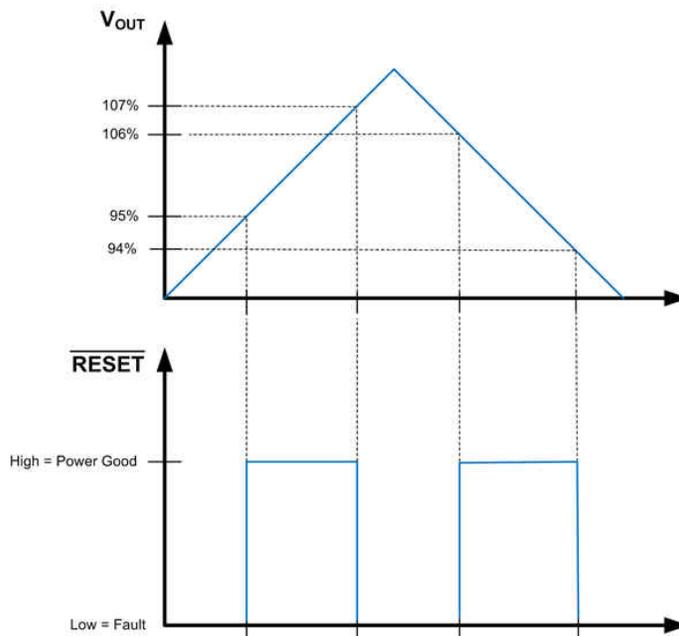
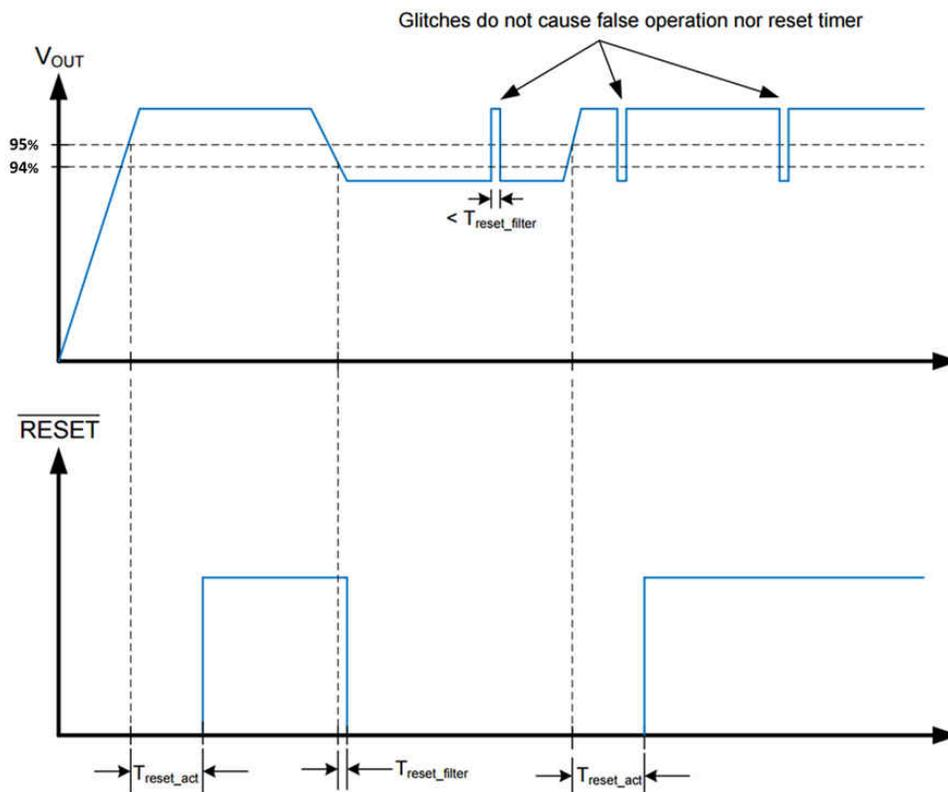

图 8-2. Static RESET Operation
图 8-3. RESET Timing Behavior
The $\overline{\text{RESET}}$ function, built into the LM53625/35-Q1, has special features not found in the ordinary Power-Good function. A glitch filter prevents false flag operation for short excursions in the output voltage, such as during line and load transients. Furthermore, there is a delay between the point at which the output voltage is within specified limits and the flag asserts Power Good. Because the $\overline{\text{RESET}}$ comparator and the regulation loop share the same reference, the thresholds track with the output voltage. This allows the LM53625/35-Q1 to be specified with a 96.5% maximum threshold, while at the same time specifying a 94 % worst case threshold with respect to the actual output voltage for that device. This allows tighter tolerance than is possible with an external supervisor device. The net result is a more accurate Power-Good function while expanding the system allowance for transients, and so forth. $\overline{\text{RESET}}$ operation can best be understood by reference to Figure 8-2 and Figure 8-3. The values for the various filter and delay times can be found in Section 7.7. Output voltage excursions lasting less than $T_{\text{RESET-filter}}$ do not trip $\overline{\text{RESET}}$. Once the output voltage is within the prescribed limits, a delay of $T_{\text{RESET-act}}$ is imposed before $\overline{\text{RESET}}$ goes high.
- A delay has been added for release of reset. See 图 8-2 and 图 8-3 for more detail.